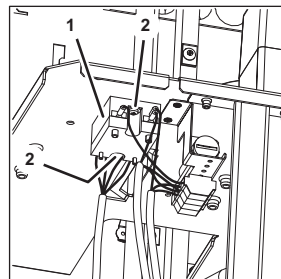

Figure 141
1. Disconnect all electrical cables from the compressor relay (Figure 141/1).
2. Remove the fastening bolts (Figure 141/2) from the compressor relay (Figure 141/1).
3. Remove the compressor relay (Figure 141/1).
4. Position the new compressor relay (Figure 141/1) within the unit.
5. Attach the compressor relay (Figure 141/1) using the fastening bolts (Figure 141/2).
6. Connect all electrical cables to the compressor relay (Figure 141/1).